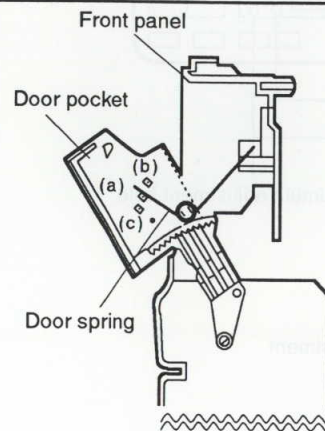
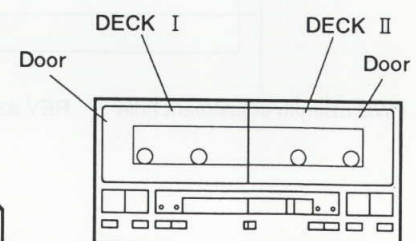

Fig. 2
Fig. 3
- Attach the door spring to the position (a) shown in Fig. 2 and stand the front panel assembly vertically as shown in Fig. 3.